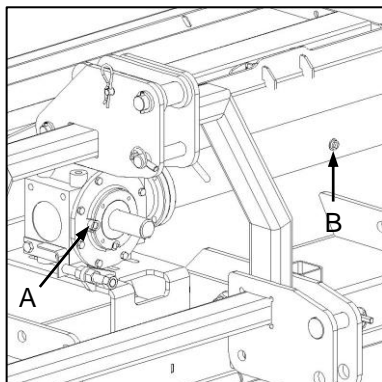

Fig. 9
- ✔ The gearbox (Fig. 9-A) and extension housing (Fig. 9-B) are equipped with filling ports. Check oil levels in both locations.
- ✔ Die ratkas (Fig. 9-A) en verlengomhulsel (Fig. 9-B) beskik oor olievulpunte. Olievlakke moet by albei punte nagegaan word.